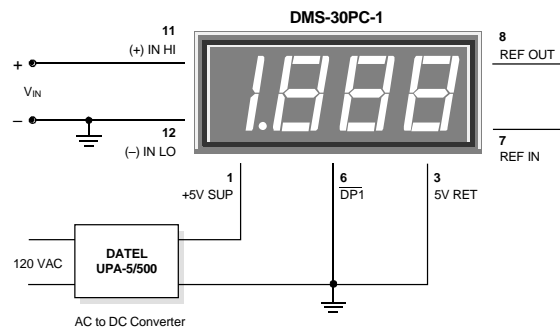

Figure 2. Single-Ended Input Configuration
- 1. **Single-Ended Input Configurations:** True single-ended measurements can be made with any DMS-30PC meter. The circuit of Figure 2 avoids problems normally associated with ground-loop currents. Separate ground runs should be used for 5V RETURN (pin 3) and (-) INPUT LO (pin 12). This will ensure that large LED currents will not flow in the wiring that connects V_{IN} to (-) INPUT LO (pin 12). Ground-loop currents can cause unstable readings.